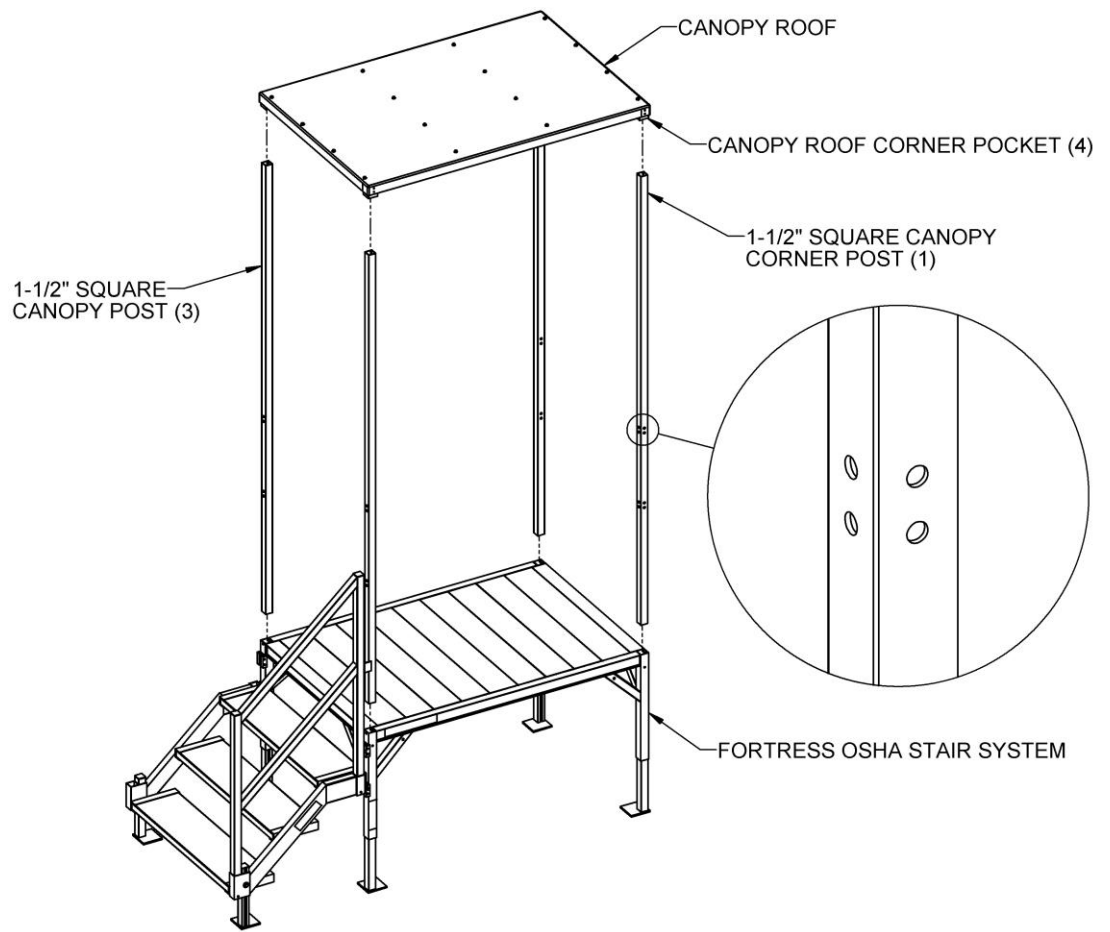

FIG. 1
- 3.2. Insert 1 1/2" square canopy posts into platform corner pockets with the holes oriented toward the platform. The canopy corner post, the only one with holes on all four sides, must be in the corner where the two handrails will connect. Orient the two canopy posts at 90° from the corner post so the holes are in line with the holes in the corner post (FIG. 1).
- 3.3. Set canopy roof on canopy posts. Insert top of canopy posts into canopy roof corner pockets and tighten corner pocket set screws (FIG. 1).